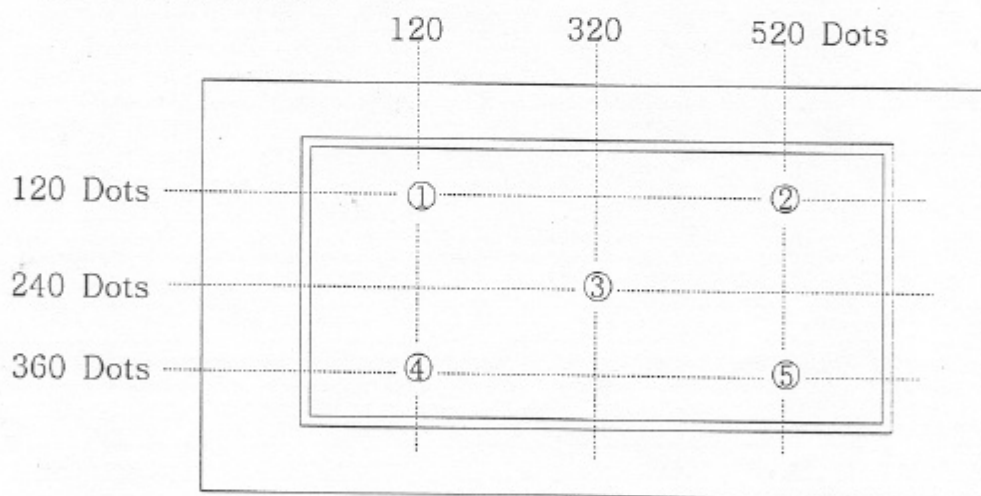

Fig. 6-1 Measuring points
- ① Ratings are defined as the average brightness inside the active area specified in the Fig. 6-1